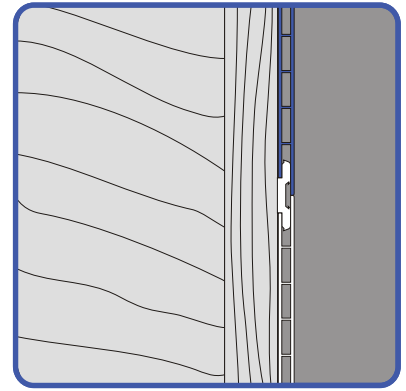

Figure 10
**Step 9.** Slide the next fascia around the exposed arms of the lower anchor biscuits (see Figure 10). Slide new anchor biscuits into the slot along the bottom of the fascia every 16". Secure each anchor biscuit to the rim joist with a 1½" deck screw. Continue adding fascia and anchor biscuits until the desired portion of the sub-structure is concealed.